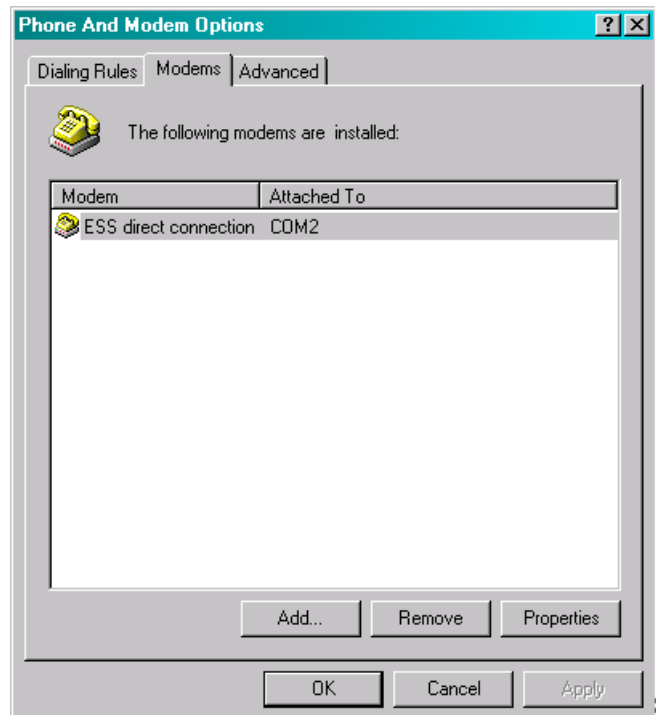

Figure 9. Finished installation of modem settings to direct line.
- 7 Finish the installation. Ignore the warning about the Microsoft digital signature. When ready, the modem view will look as in figure 9 on page 9.